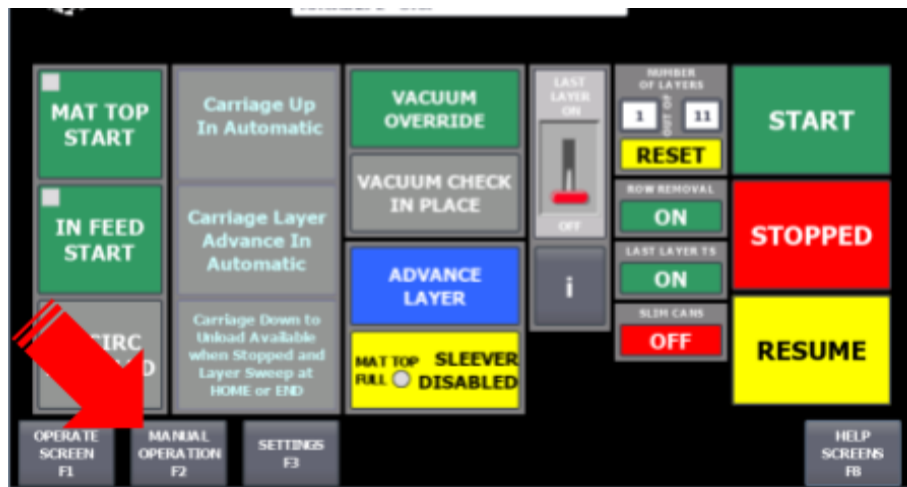

Fig. 22: HMI Screen – MANUAL OPERATION Button
1. If manual control is required for any of the Palletizer components, press the MANUAL OPERATION button (Fig. 22) on the Operate Screen.